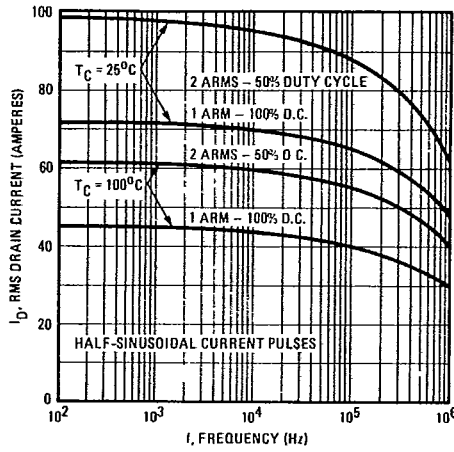

Fig. 16 – Maximum Continuous Drain Current Vs. Frequency Derating
- f) Make due allowances for drain current in high frequency applications. Refer to *Figure 16*.